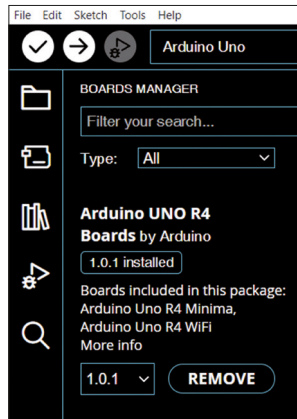

Figure 2.3: Click **INSTALL** to install the Uno R4 boards.
- Search for ARDUINO UNO R4 (Figure 2.3) and click **INSTALL** to install it. At the time of drafting this book, the version was: 1.0.1.